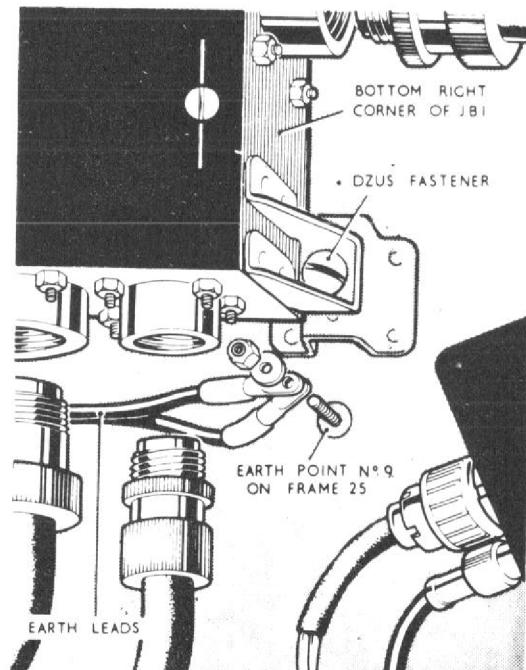

Fig.4 J.B.1 lower attachments and earth point No.9
- (1) Render the aircraft electrically safe, as described in Group A.1.
- (2) Open the engine starter access door.
- (3) Disconnect the earth lead EA9 from earth point 9 located adjacent to the lower right hand corner J.B.1. (fig.4).
- (4) Disconnect all the plugs and sockets on the cable assemblies at J.B.1. Seal off the plugs and sockets with approved caps and covers and stow the cable assemblies away from the box.
- (5) Release the two Dzus fasteners at the lower corners of the box (fig.4) and lift the box upwards to disengage the two top mountings.
- (6) Lower the box and remove it from the aircraft, complete with earth lead EA9.